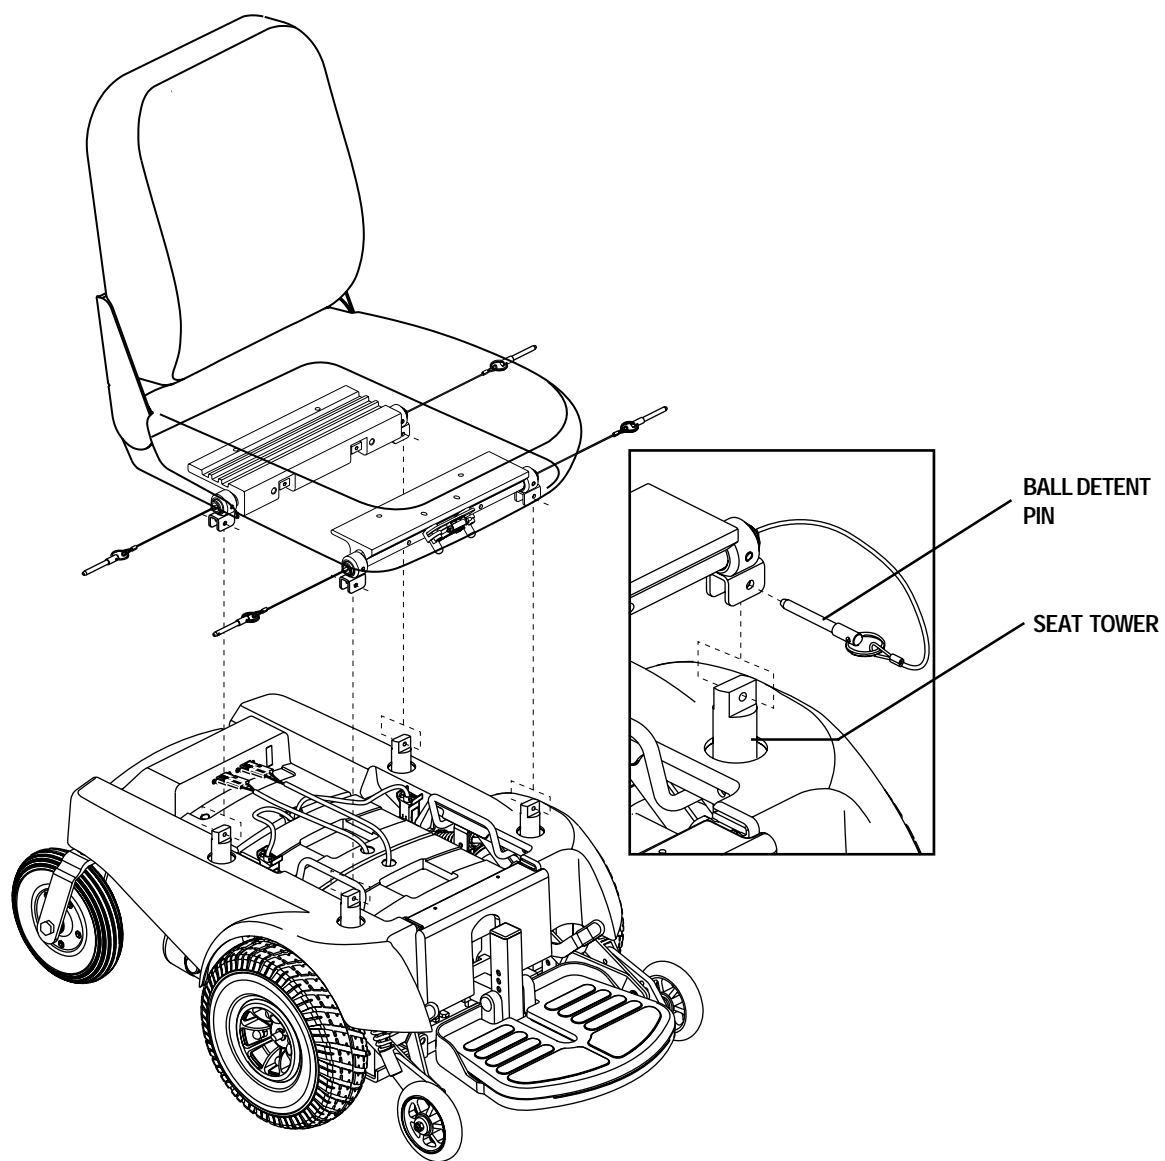

Figure 14. Seat Installation/Removal
2. Remove the ball detent pin from each seat tower. See figure 14.
3. Remove the ball detent pins that attach the trapeze bars to the seat towers. See figure 14.